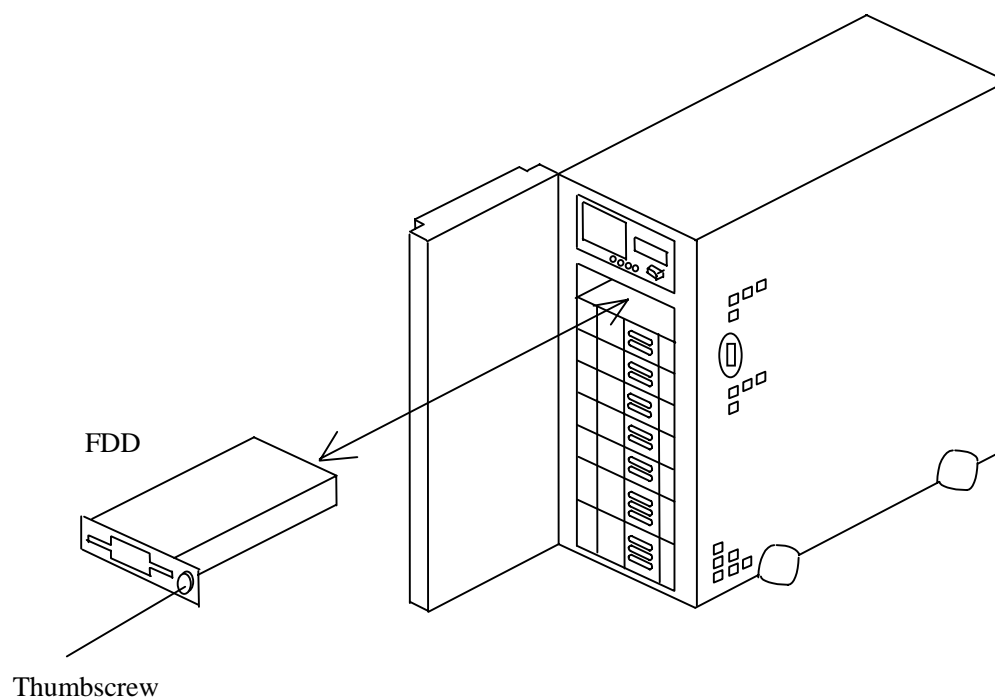

Figure 5 Replacement of FDD
5. Replacing FDD (See Figure 5.)